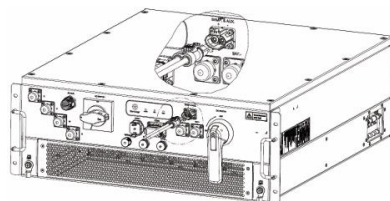

Figure 6-18 Battery voltage detection and DC input wiring
Step 4: Insert the plug into the socket, as shown in Figure 6-18. The other end is connected to the positive and negative poles of the battery socket.